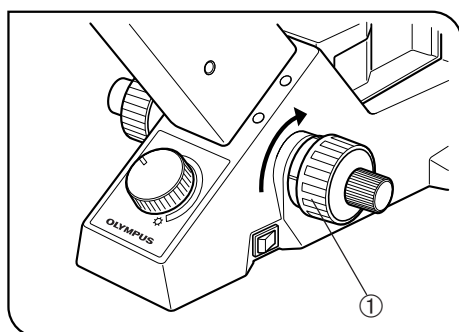

Fig. 28
(Figs. 28 & 29)
1. Turn the coarse adjustment knob ① towards the back until the revolving nosepiece is set at its lower limit. (Fig. 28)